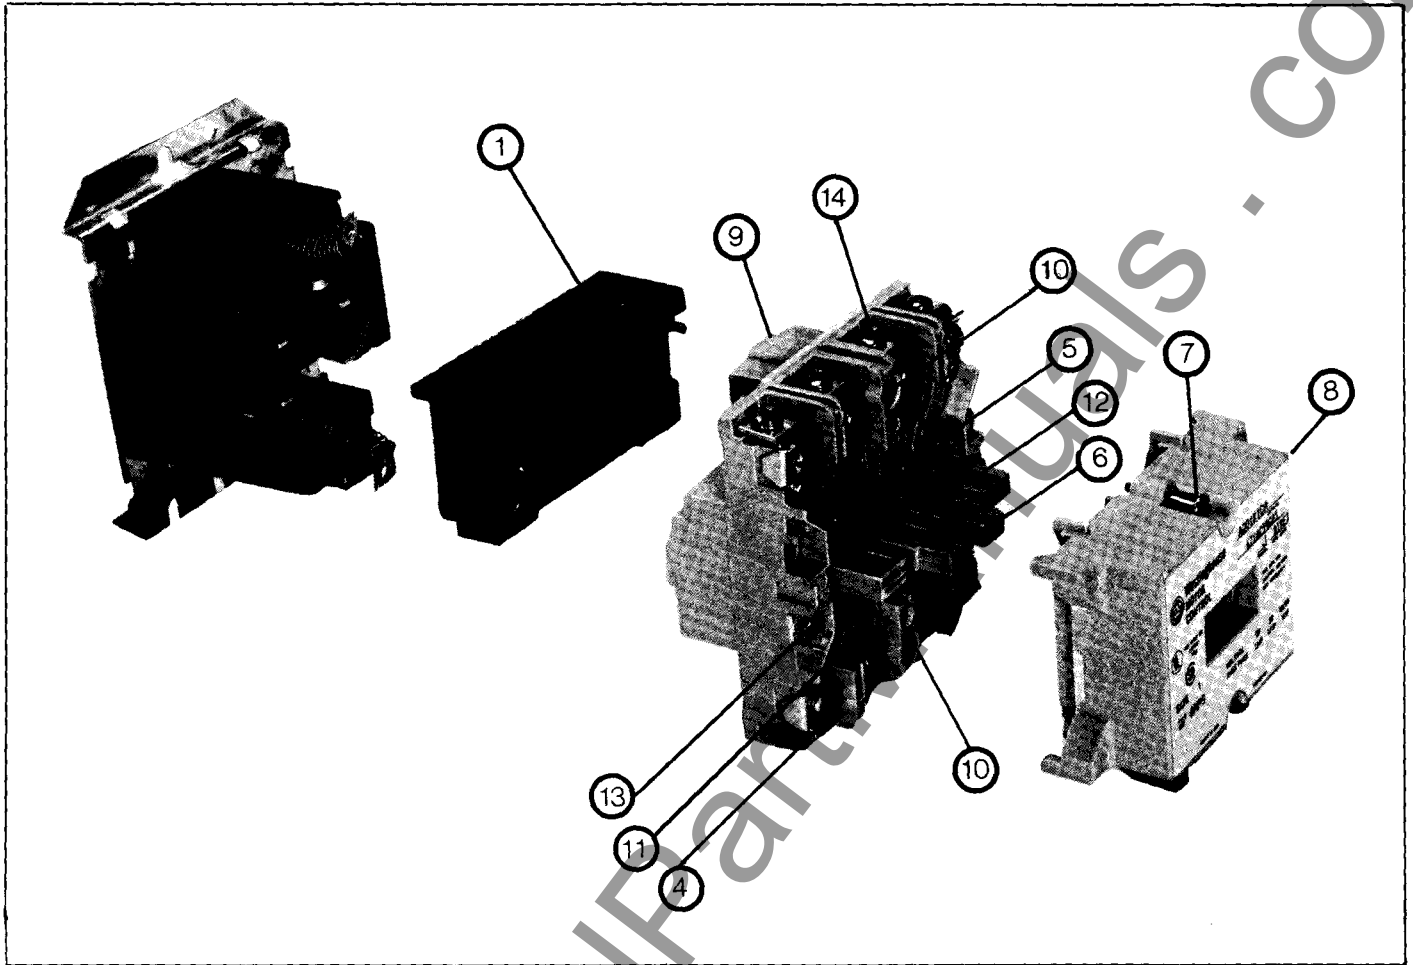

Fig. 9 Size 1 A200 Contactor (Exploded View)
Refer to Figure 9. Loosen the two arc box assembly screws (7) located immediately above and below the nameplate and remove the arc box (8). Contacts (5) are visible. Retighten the screws per Table V.
Refer to Figure 9. Loosen the assembly screws (10) located to the immediate top and bottom of the arc box. Remove connector straps to the overload relay. Pull the loosened upper base structure (9) forward. Pull the coil (1) from the upper base, plug in a new coil, replace the upper base structure and check the auxiliary contacts for secureness when repositioning the upper base. Tighten the assembly screws and the connector straps screws referring to Table V.